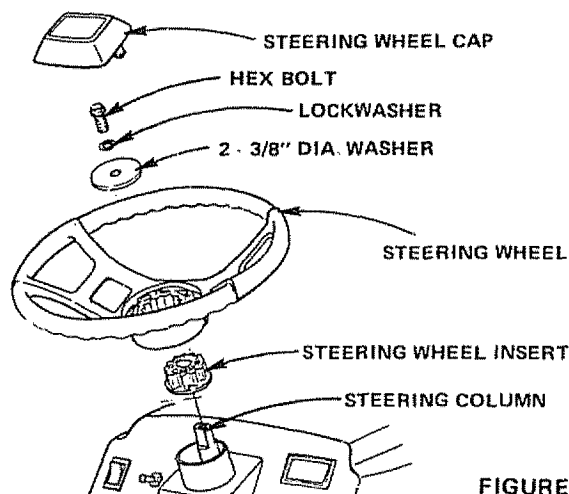

FIGURE 5
- Remove Hex Bolt, Lockwasher and 2 - 3/8" Dia. Washer from Steering Column (Fig. 5).
- Secure Steering Wheel to Steering Column using Hex Bolt, Lockwasher and 2 - 3/8" Dia. Washer (Fig. 5).